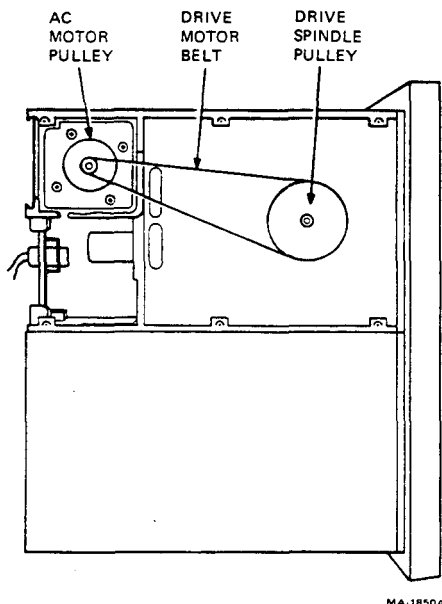

Figure 2-10 Drive Belt and AC Motor Pulley
3. While turning the spindle pulley, remove the belt by rolling it off the spindle pulley (Figure 2-10).